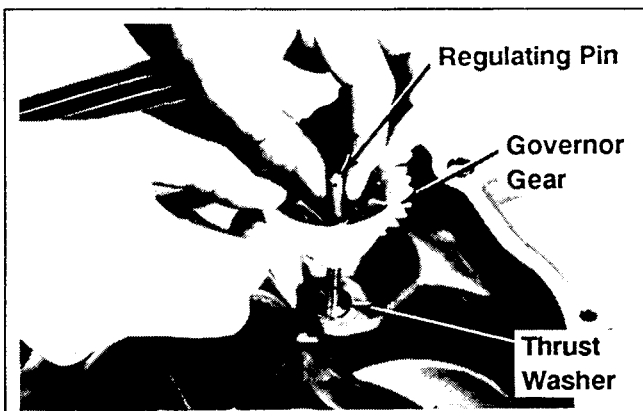

Figure 11-2. Installing Governor Gear.
2. Position the regulating pin to governor gear/flyweights as shown in Figure 11-2. Slide the governor gear/regulating pin over the governor gear shaft.